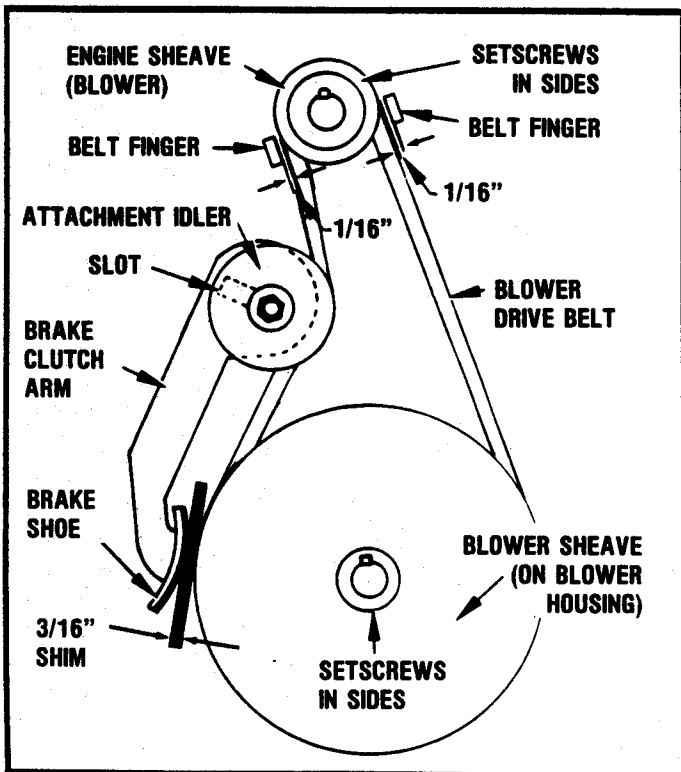

FIGURE 14
ATTACHMENT CLUTCH — FIGURES 14 & 15
- Check alignment of blower engine sheave and blower sheave with attachment idler. If sheaves are not aligned properly loosen the setscrews on the blower engine sheave and blower sheave, then align them with the blower idler. Retighten setscrews. See Figure 14.
- Insert a 3/16" thickness shim (use a 1" wide flat stock) between the brake shoe and the attachment drive belt on the blower sheave. See Figure 14.
- With the 3/16" shim installed, adjust the attachment idler in the slot toward blower drive belt until it is just snug against belt. See Figure 14. Remove shim. Adjustment should be re-checked after completion of attachment clutch assembly.
- Check and, if necessary, adjust the belt fingers so there is approximately 1/16" clearance between attachment drive belt and belt fingers when attachment clutch is engaged. See Figure 14.